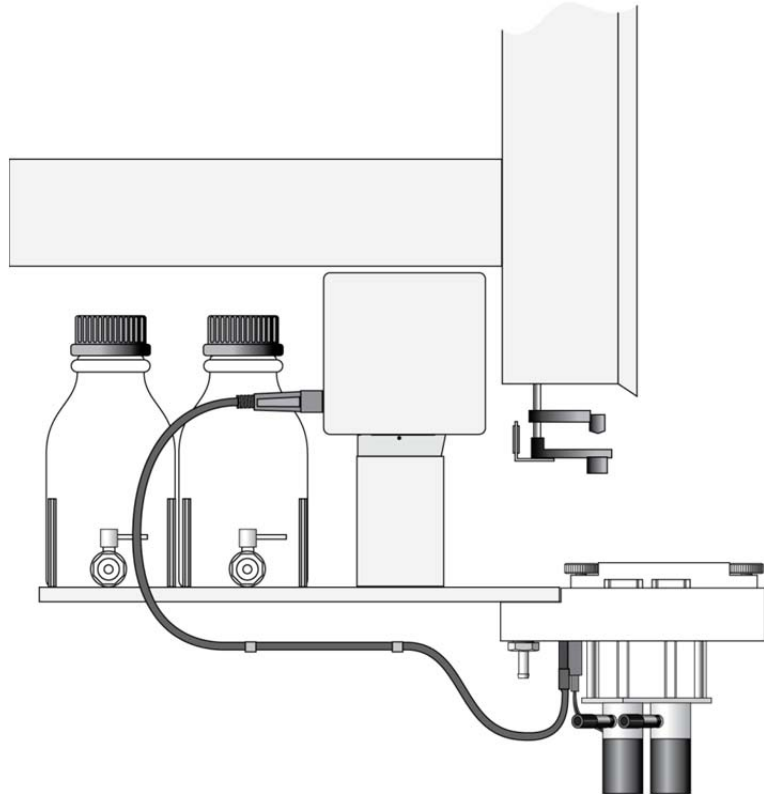
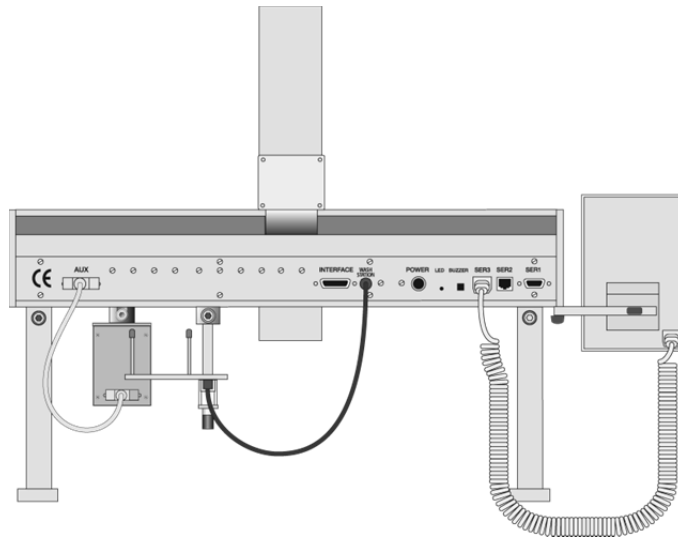

Figure 18. Electrical Connection, Fast Wash Station
Figure 21. Electrical Connections for HTC PAL System
8. Connect the control cable between PAL connector "Wash Station" and the four-pronged connector located on the Fast Wash Station assembly. See Figure 18 below and Figures 21/22 for details.
Before defining the HTC PAL Object positions, make sure the LC Injection Valve, Fast Wash Station and Keypad Terminal are correctly connected to the HTC PAL X-axis rear side. (See Figs. 21 or 22.)